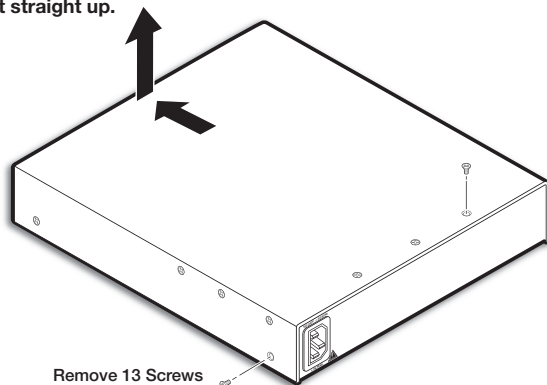

Figure 90. Removing the Cover
4. Remove and retain the screws (thirteen screws, five on each side and three on top) securing the cover to the SMP. Slide the cover forward slightly and lift it off the unit (see figure 90).